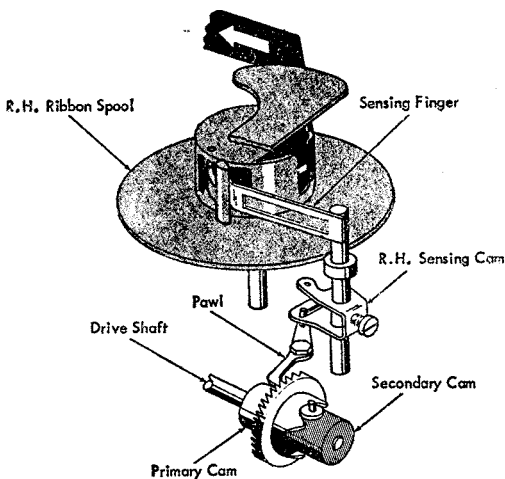

Figure 38. Ribbon Reverse, Right Spool Empty
As the right spool empties, its sensing finger engages a notch in the right-hand ribbon spool allowing the sensing-finger shaft to rotate and position a pawl between teeth of the drive-shaft primary-cam (Figure 38). As the drive shaft rotates the secondary cam, pinned to the drive shaft, climbs the high points of the now stationary primary cam. This pulls the drive shaft to the right and engages the right gears in feeding position. This movement of the shaft is also transferred to the reverse-lever, latching it under the reverse-lever latch, so as to maintain this condition.
**16. RIGHT REVERSING CAM.** With the reverse lever unlatched and the right sensing finger bottomed in the right ribbon-spool notch, position the right-hand cam on the sensing finger shaft so the reversing pawl bottoms between the teeth on the primary cam (Figure 38). The sensing finger should be located vertically to center between the ribbon spool flanges.